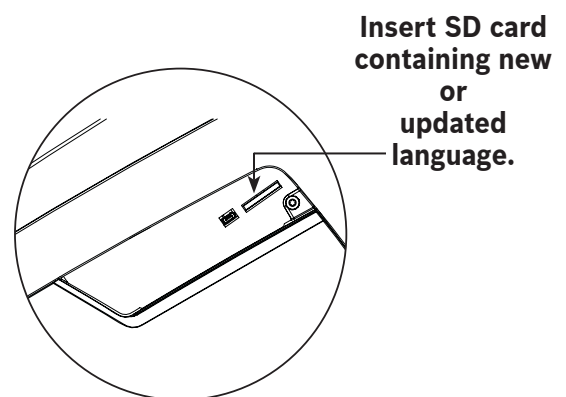

Figure 7
3. Insert the SD card containing the language data into the side panel on the machine. See Figure 7.